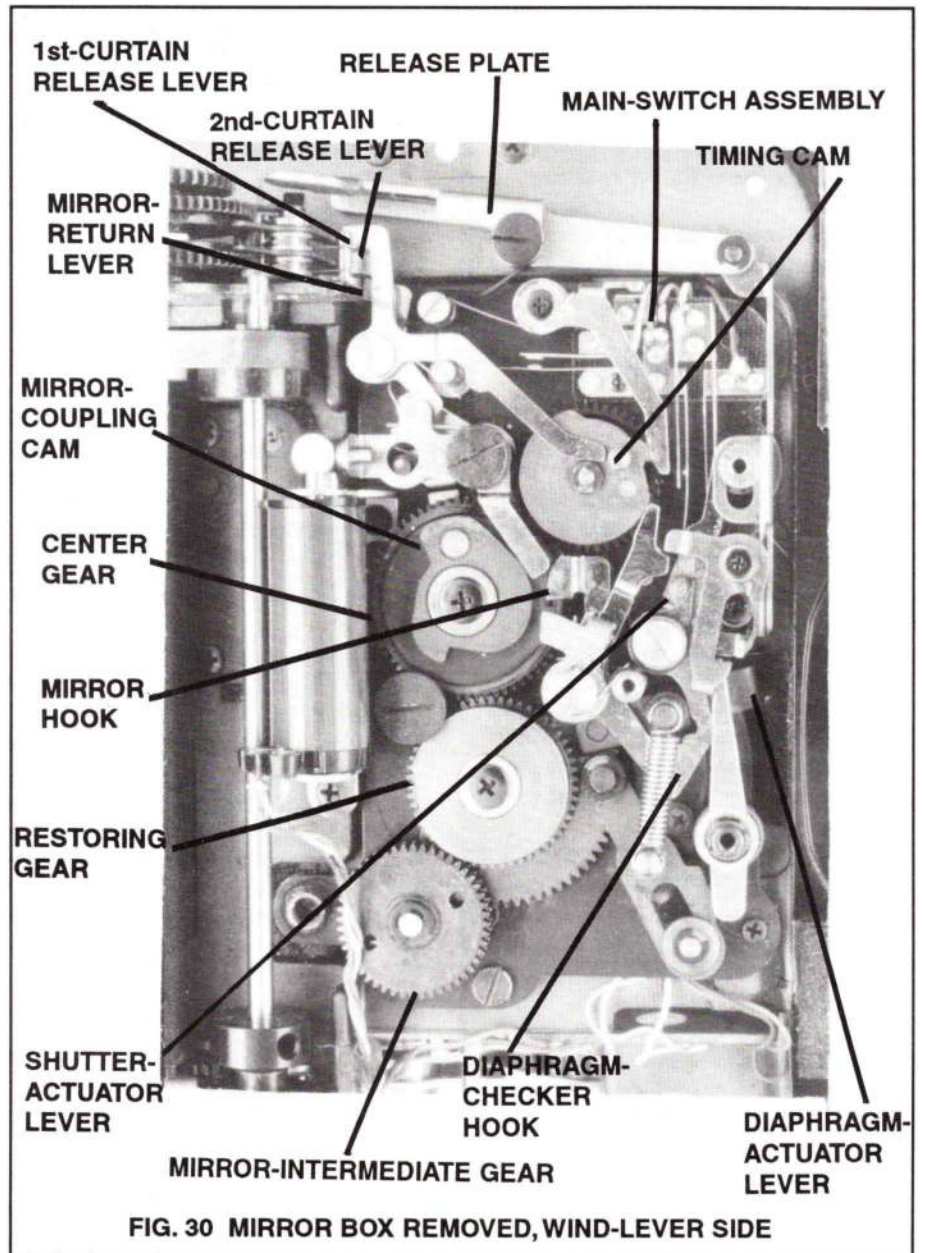

FIG. 30 MIRROR BOX REMOVED, WIND-LEVER SIDE
Pentax supplies the shutter-mechanism plate, Fig. 30, as a complete unit. You can also get individual parts for the shutter-mechanism plate. Remove the mirror box from the body casting. Then:
- b. remove release plate, Fig. 30 (E-clip, screw with spring)
- c. unsolder wires from main-switch assembly, Fig. 30 (see Fig. 36 for wiring diagram)
**3. Shutter-mechanism plate,** Fig. 30 (mirror-operating mechanism at side of mirror box). Revised to provide the mirror-up feature. Fig. 16 shows the current style; Fig. 18 shows the early style that doesn't have the mirror-up lever. If you're replacing the shutter-mechanism plate in an original version, also replace the right side cover, Fig. 2. You've then updated the camera to add the mirror lock-up feature.
**7. Main-switch assembly,** Fig. 30. The new style has thicker, gold-plated contacts.